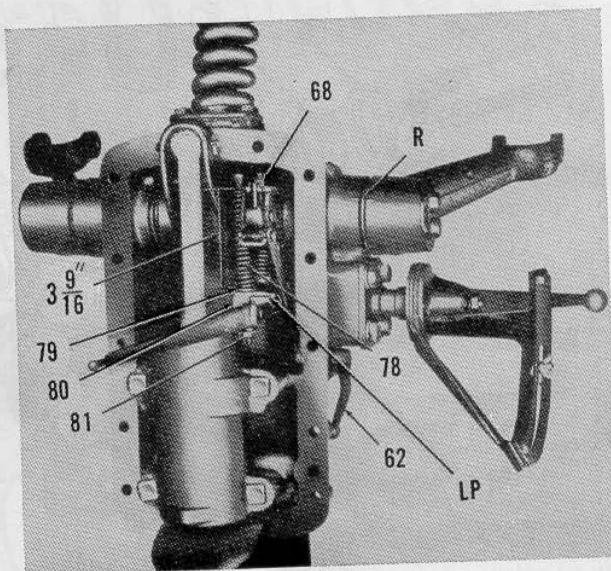

Fig. FO81—On model 8N, adjust the constant draft control spring to $3\frac{9}{16}$ inches length by means of adjusting nut (81).
103. CONSTANT DRAFT SPRING. To adjust constant draft spring mount the lift cover assembly in a vise with control spring up as shown in Fig. FO81. Disengage the position control lever (62) by moving it to the forward down position. Measure the length of the constant draft control spring (78) which should be $3 \frac{9}{16}$ plus or minus $\frac{1}{64}$ inch. If spring is not within these limits adjust to $3 \frac{9}{16}$ by means of adjusting nut (81).